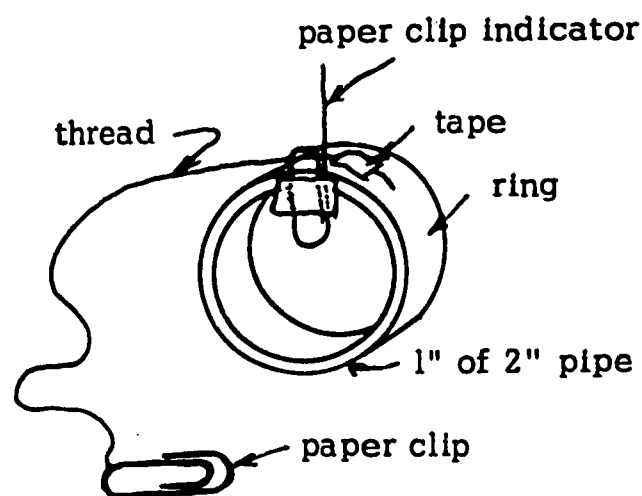

Fig. 14B-5. Ring Assembly
- board. On the face of the board, print 3%, 4%, and 5%. See Fig. 14B-4.